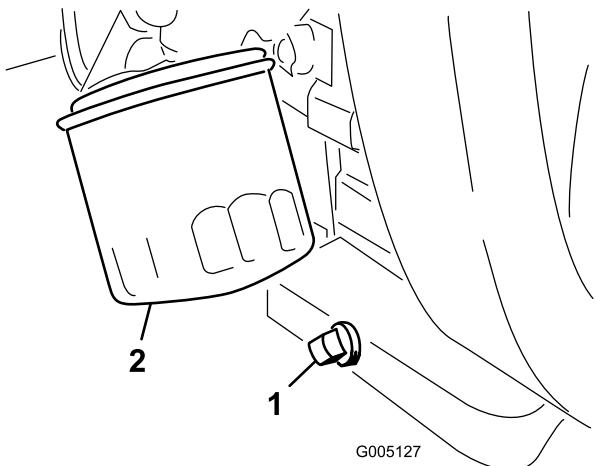

Figure 43
- Remove the drain plug (Figure 43) and let oil flow into a drain pan. When the oil stops, install the drain plug.
- Remove the oil filter (Figure 43). Apply a light coat of clean oil to the new filter gasket.